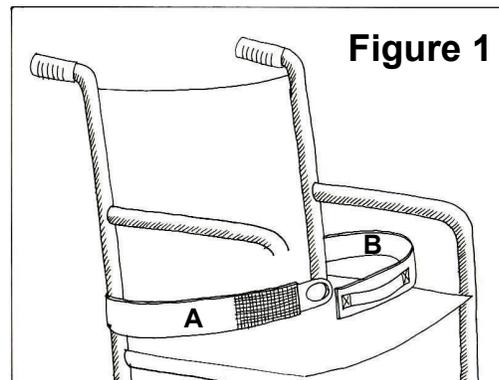

Figure 1
1. Remove the bottom seatback screws on both sides of the wheelchair. When installing belt, be sure that female side (A) has Velcro facing away from the chair user and male side (B) has red pull-strap facing away from the chair user. **(Figure 1)**